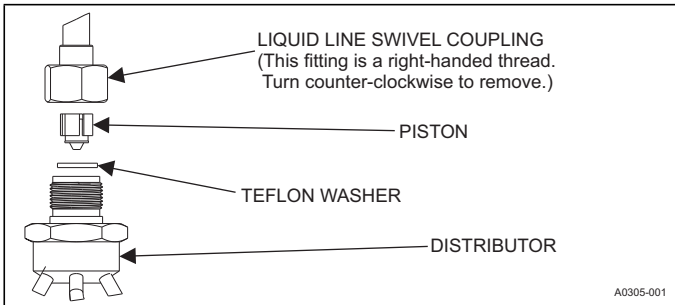

FIGURE 5: Piston Installation
- Install required size piston into the distributor. Refer to supplied Tabular Data Sheet for specific piston size and indoor coil match up. See Figure 5.
- Verify that the teflon washer is still in place in the distributor opening. See Figure 5.